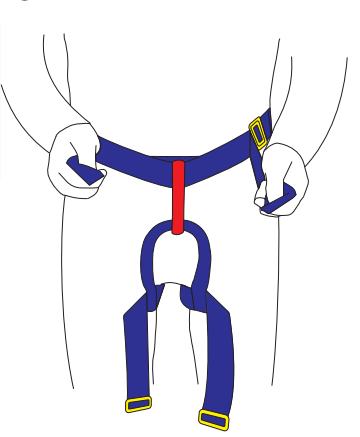

Fig. 5
4. Fit each leg firmly around upper thigh and lock. Fig. 5, A- B